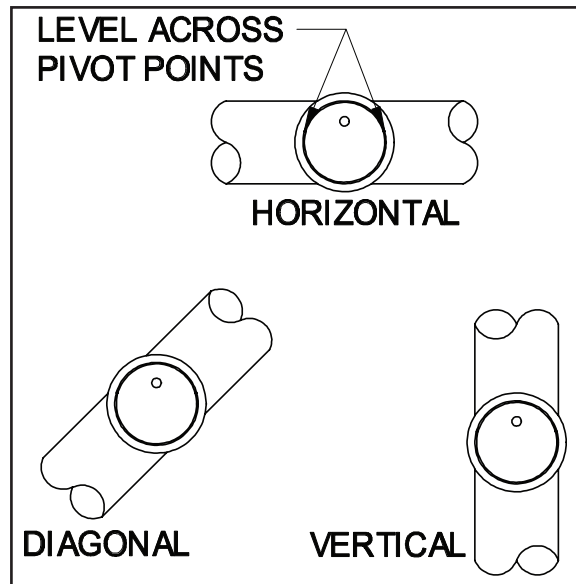

Figure 8
6. Mount the VRV assembly onto the tee and fasten with a screw and nut in collar tabs. To ensure proper operation, check the gate for being level across the pivot points and plumb. (See Figure 8)